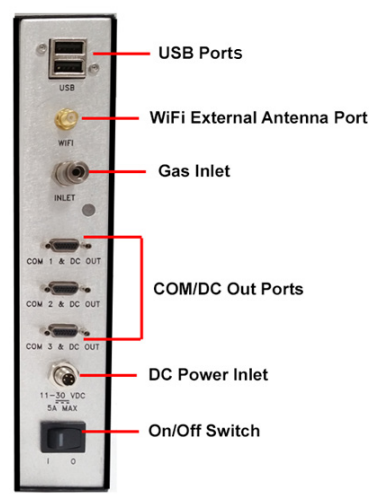

Figure 4 Connection Ports
This section describes the connections shown in Figure 4.
- 1 Connect the external antenna (provided with the analyzer) to the WiFi external antenna port (see Figure 4).